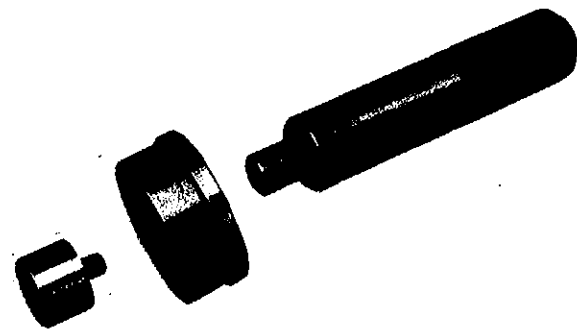
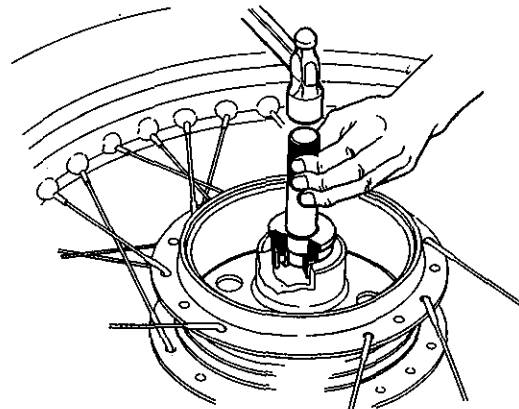

Fig.2
Fig.3
Place outer driver (Fig.1-②~⑦) matching the bearing size, pilot (Fig.1-③~⑯) and handle (Fig.2) onto the bearing to be driven in and drive in with a hammer.(Fig.3)